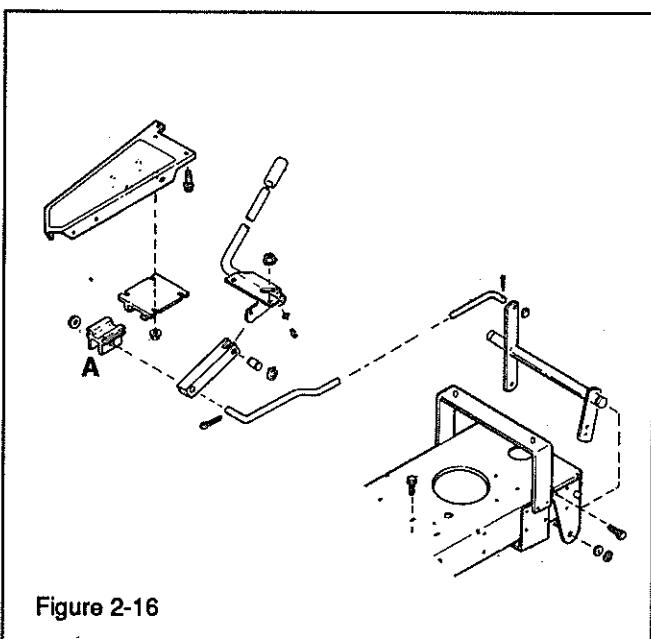

Figure 2-16
- c. If your unit is equipped with a nylon slide and guide (A, Figure 2-16), inspect and oil every 50 hours or as conditions require.